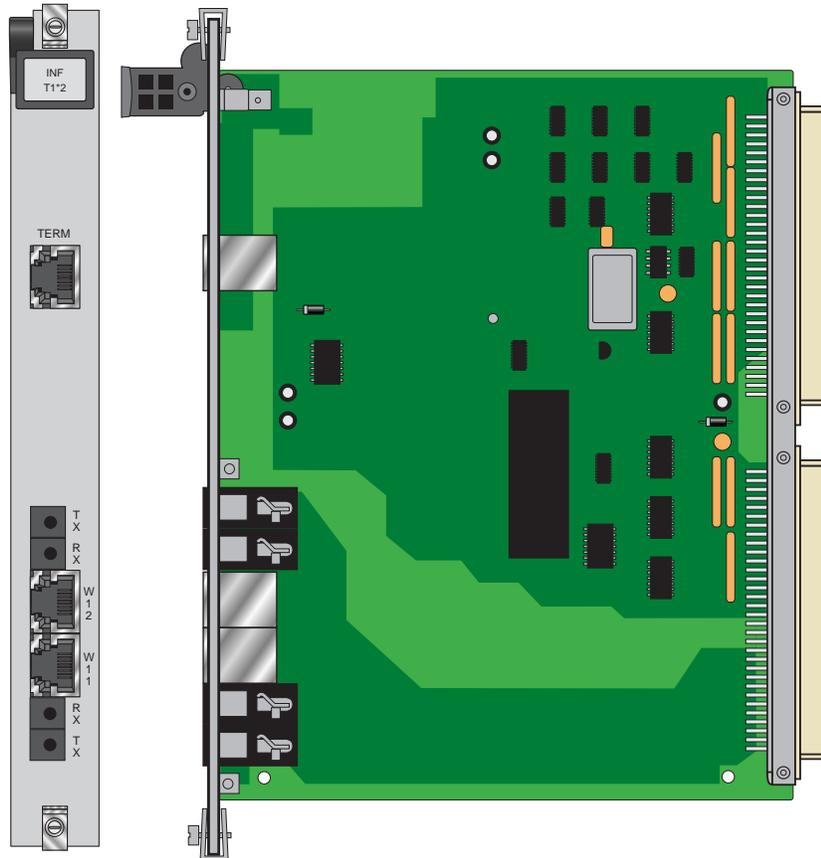

Figure 6-3. INF T1*2 Interface Card
The INF T1*2 interface card uses RJ48 jacks to terminate two (2) T1's and Bantam connectors to terminate two T1 WAN links and an RS232 control terminal interface port or balanced 120 ohm E1. The computer port, modem port and node port are not available on this interface card (see Figure 6-3).